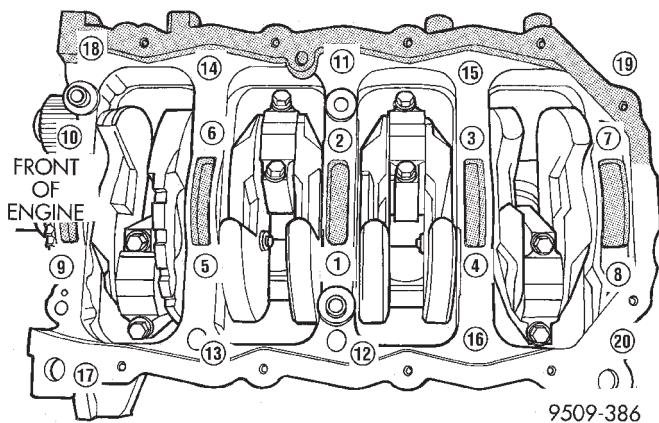

Fig. 84 Main Bearing Caps/Bedplate Torque Sequence
(6) Before installing the bolts the threads should be oiled with clean engine oil, wipe off any excess oil.
(7) Install main bearing bedplate to engine block bolts 11, 17 and 20 finger tight. Tighten these bolts down together until the bedplate contacts the cylinder block.
(8) To ensure correct thrust bearing alignment, perform the following steps:
• Step 5: Install and tighten bolts (1 - 10) in sequence shown in (Fig. 84) to 41 N·m (30 ft. lbs.).
• Step 6: Remove wedge tool used to hold crankshaft. (9) Tighten bolts (1 - 10) again to 41 N·m (30 ft. lbs.) +1/4 turn in sequence shown in (Fig. 84).
(10) Install main bearing bedplate to engine block bolts (11 through 20), and torque each bolt to 28 N·m (20 ft. lbs.) in sequence shown in (Fig. 84).
(11) After the main bearing bedplate is installed, check the crankshaft turning torque. The turning torque should not exceed 5.6 N·m (50 in. lbs.).
- (12) Install balance shaft assembly.
- (13) Install oil pump, timing belt and covers.
- (14) Install oil pan and oil filter.
(15) Install crankshaft rear oil seal. Refer to procedure in this section.
(16) Install drive plate. Apply Mopar® Lock & Seal Adhesive to bolt threads and tighten to 95 N·m (70 ft. lbs.).
(17) Attach transaxle to engine. Tighten attaching bolts to 101 N·m (75 ft. lbs.).
(18) Install engine assembly.